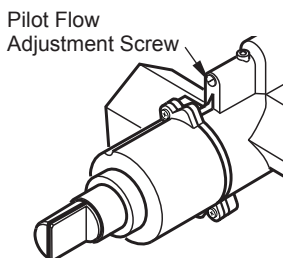

Figure 17 - Pilot Flow Adjustment Screw
After installation is complete and the unit has been ignited, it may be necessary to adjust the pilot. Use a small flat-head screwdriver to turn the flow adjustment screw on the manual control valve (see Figure 17). Turn the screw counterclockwise to allow more gas to flow or clockwise to restrict gas flow. Be careful to limit the turns to 2 1/2 from the fully closed position. Further turning can result in gas leaking at the adjustment screw and the pilot flame size will diminish. The proper pilot flow will result in a strong blue flame between 1/2" and 1" long.
- Access pilot adjustment screw through slot in valve cover. Turn adjustment screw clockwise to decrease or counterclockwise to increase flame to proper size (see Figure 17, page 11). Do not remove adjustment screw.